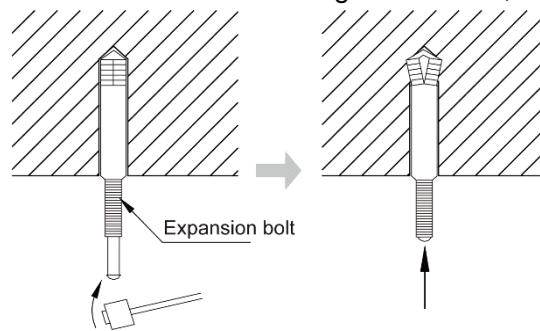

Fig 4.1.5
- 2) Insert the M10 expansion bolt into the hole and then knock the nail into the bolt, as shown in fig 4.1.5, and then remove the paper pattern.